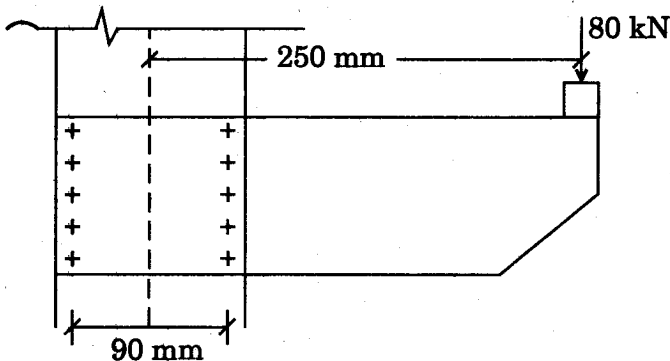

Figure 1
1. A bracket transmits a load of 80 kN at an eccentricity of 250 mm to a column through 10 rivets of 18 mm diameter arranged in two vertical rows as shown in Figure 1. The pitch of the rivet is 80 mm and the load lies in the plane of the rivets. Calculate the maximum stresses in the rivets.